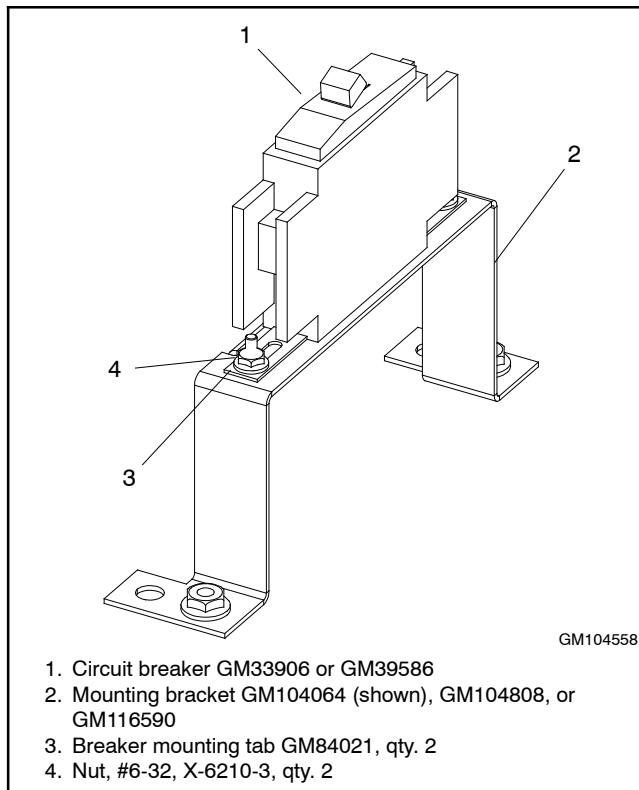

Figure 9 Auxiliary Breaker with Mounting Bracket
1. Slide two breaker mounting tabs GM84021 onto circuit breaker GM33906 (15 amps) or GM39586 (20 amps). The mounting tabs should be flush with the back of the breaker. See Figure 9.
2. Use two nuts X-6210-3 to attach the circuit breaker to mounting bracket GM104064 (for 100- 200 amp models) or bracket GM104808 or GM116590 (for 300- 400 amp models). See Figure 9. Tighten the nuts to 1.4 Nm (12 in. lbs.).